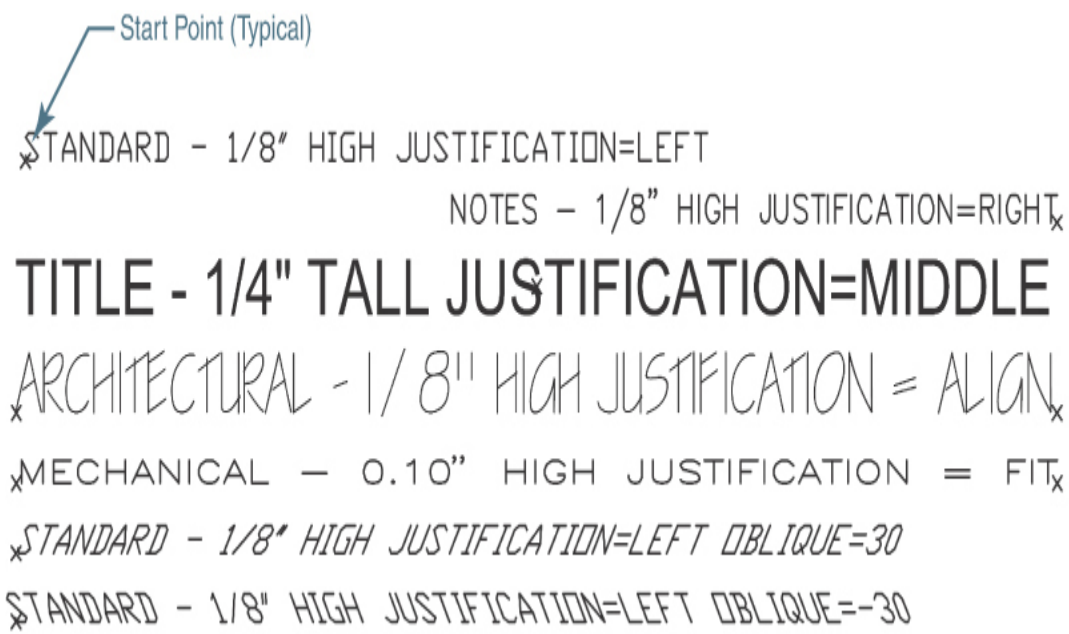

Figure 11-43
- 2 Create the single-line text shown in Figure 11-43 using the text style, height, and justification indicated.